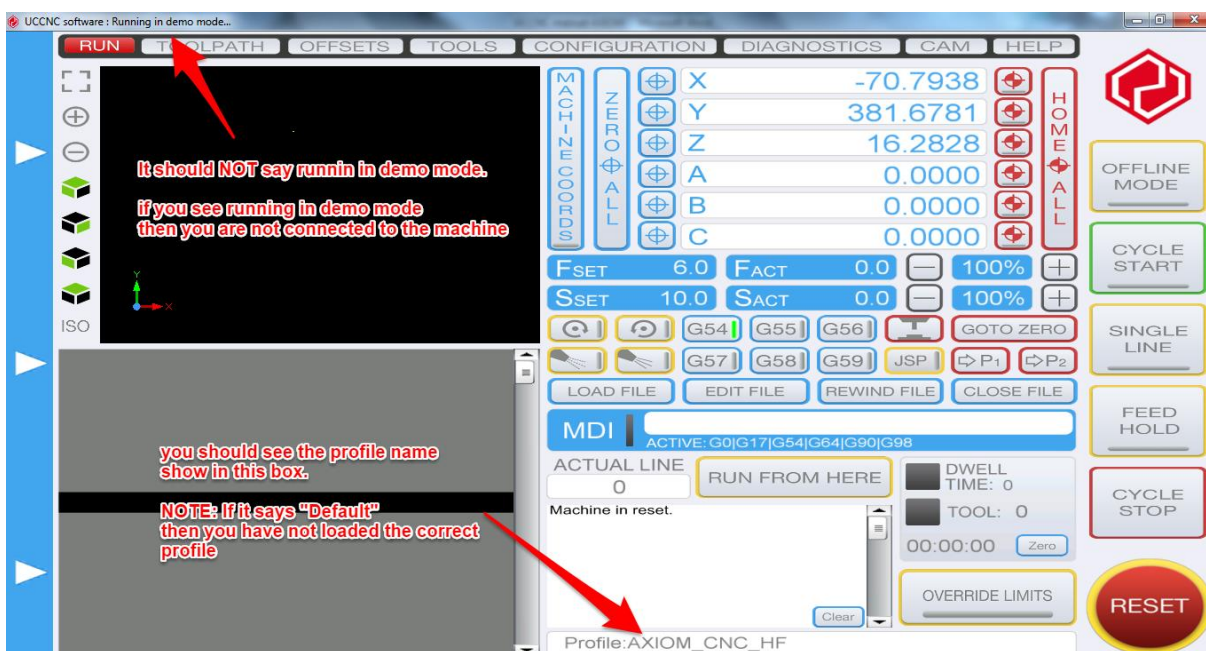

Figure 43: UCCNC main screen summary
- Figure 43 shows the main screen once you open the UCCNC controller.